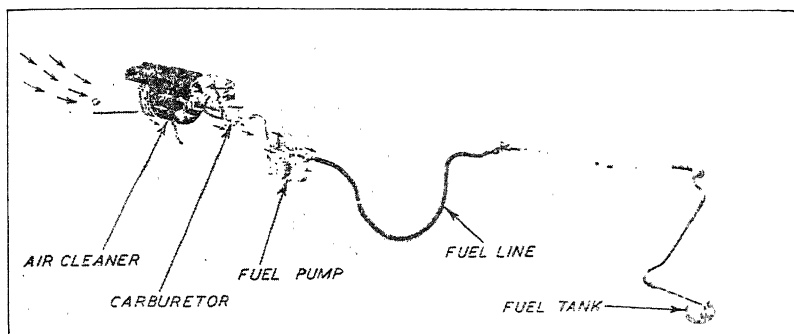

Fig. 2. Buick Fuel System
**Mechanical Pump Fuel System.** Fig. 2 illustrates the layout of the fuel line, pump, carburetor, and air cleaner of a mechanically operated fuel pump system. The mechanical pump serves to draw the fuel from the main supply tank, which is carried at the rear of the car, and then force it on into the carburetor from which point it is drawn by suction into the engine. In the layout of this particular system, attention has been given looking to the defeat of fuel lock